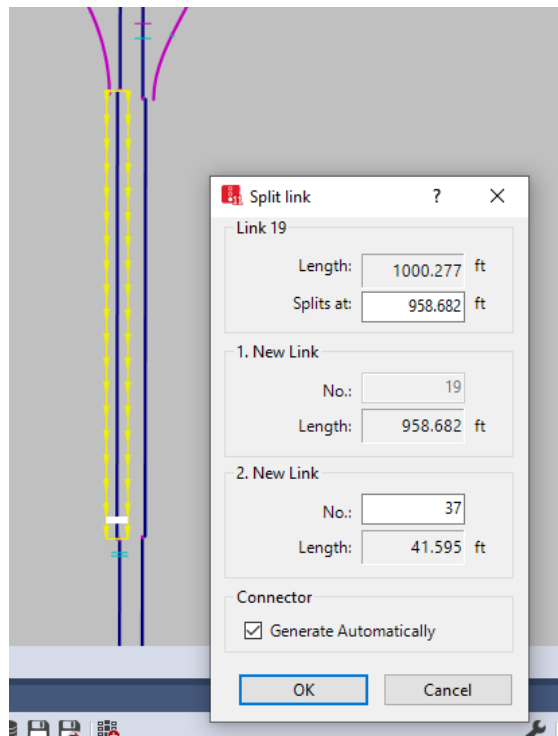

Figure 41: Acceleration link split location
- step i. Split the SB freeway *link* near the end of the taper. This will be near the end of the current four lane *link* you are using to model the deceleration lane. This split should be close (say 20 or 30 ft) to the *connector* that connects the 4-lane *link* to the 3-lane *link*, Figure 41. (See also Figure 43)